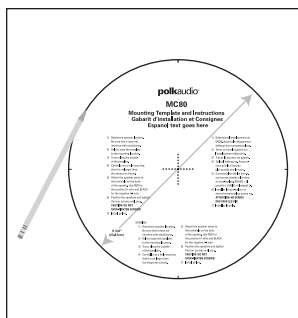

Figure 10a—Round Template:
2. Using the template, trace the installation location with a pencil. Use a level to make certain the template is straight and plumb. This is the exact cutout size (figures 10a & 10b).